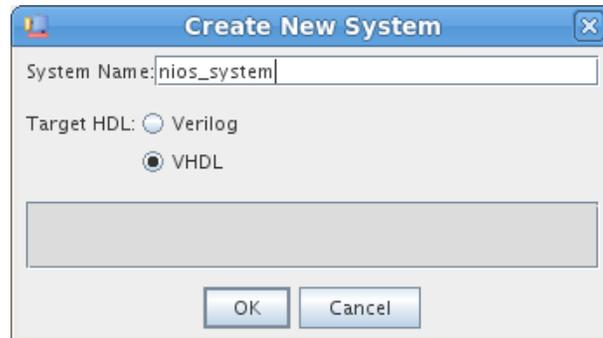
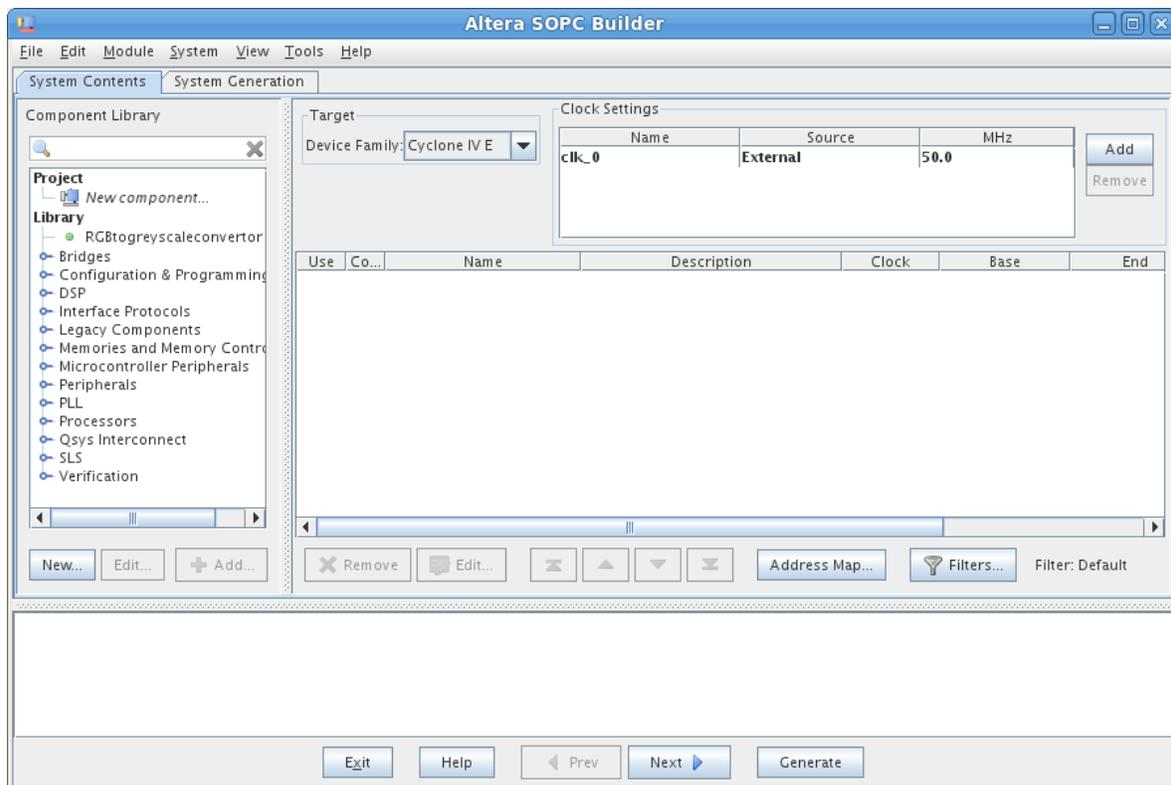
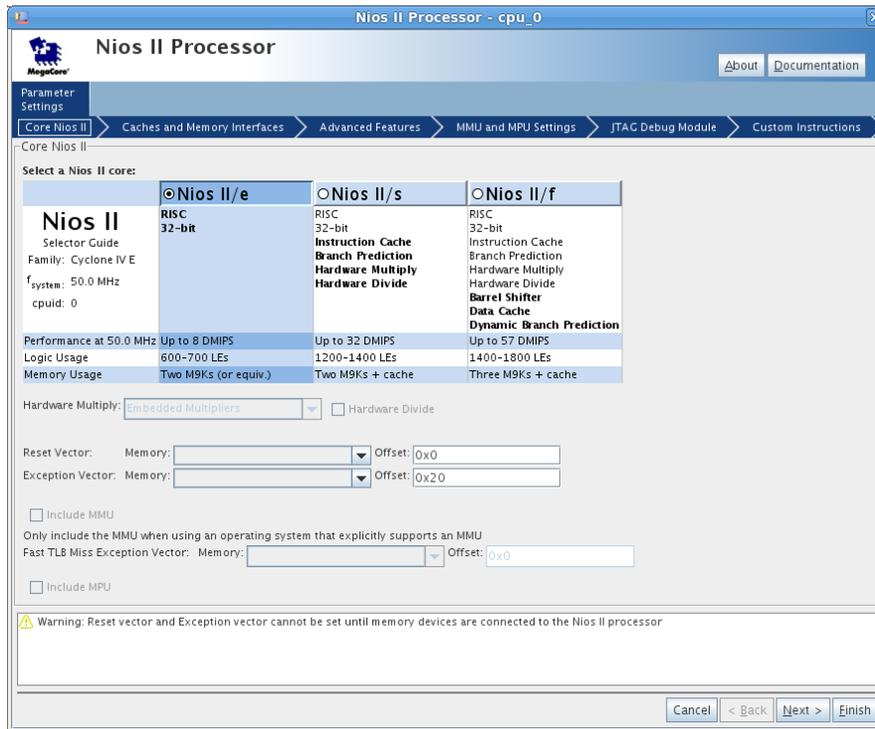
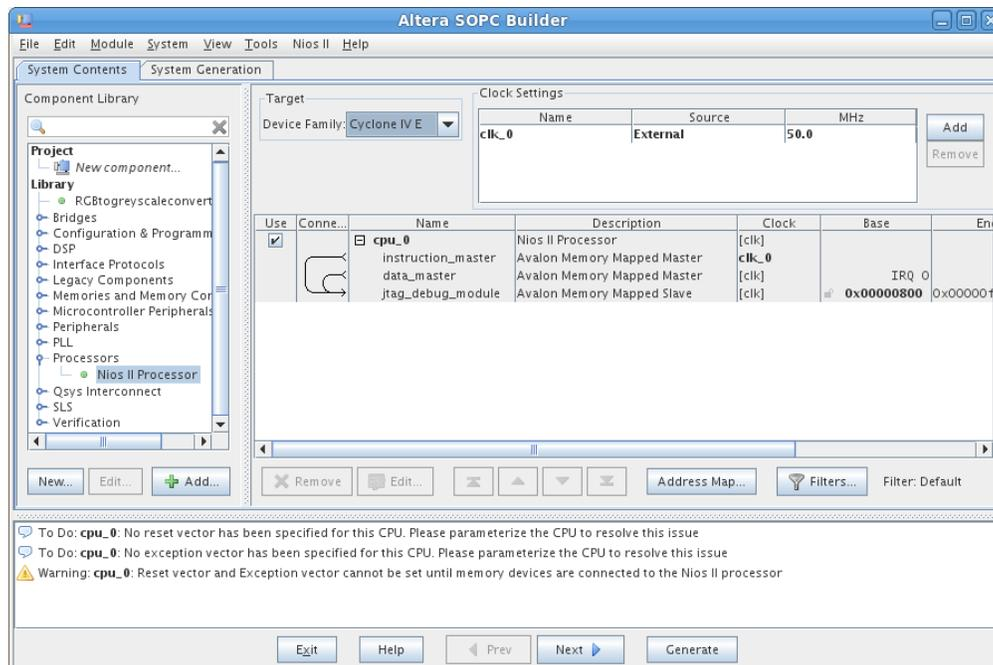

Figure 5. Create a new nios II system.
Figure 6. The System Contents tab window.
Figure 7. Create a Nios II processor.
Figure 8. The defined Nios II processor.
2. Select Tools > SOPC Builder, which leads to the pop-up box in Figure 5. You may get a notice saying you should migrate to Qsys. You can safely ignore such notice. Enter *nios_system* as the system name; this will be the name of the system that the SOPC Builder will generate. Choose VHDL as the target HDL, in which the system module will be specified. Click OK to reach the window in Figure 6.
3. Figure 6 displays the System Contents tab of the SOPC Builder, which is used to add components to the system and configure the selected components to meet the design requirements. The available components are listed on the left side of the window. Before choosing our components, examine the area in the figure labeled Target. Ensure that Cyclone IV E is selected.
- On the left side of the window in Figure 6 in Library, select Processors > Nios II Processor and click Add, which leads to the window in Figure 7. Alternatively, you can search the component by name.
- Choose Nios II/e which is the simplest version of the processor. Click Finish to return to the window in Figure 6, which now shows the Nios II processor specified as indicated in Figure 8. There may be some warnings or error messages displayed in the SOPC Builder Messages window (at the bottom of the screen), because some parameters have not yet been specified. Ignore these messages as we will provide the necessary data later. Observe also that a new tab called **Nios II Processor “cpu_0” Settings** appears, which allows further configuration of the processor - we will not use it.